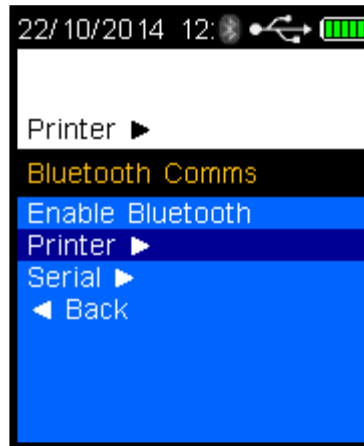

Figure 82 Printer
- Press the down button until Printer is highlighted (Refer Figure 82).